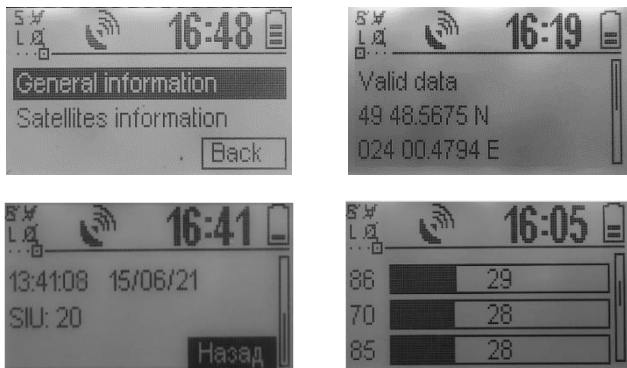

Figure 18 – Location information
- **Location info** – contains “**General information**” and “**Satellites information**”. “**General information**” allows you to view the current data of the navigation receiver, namely time, date, coordinates, the number of satellites currently found by the device (SIU), as well as information about whether the coordinates are valid. “**Satellites information**” allows you to see the unique identifiers of found satellites and the signal-to-noise ratio for each found satellite (Figure 18).